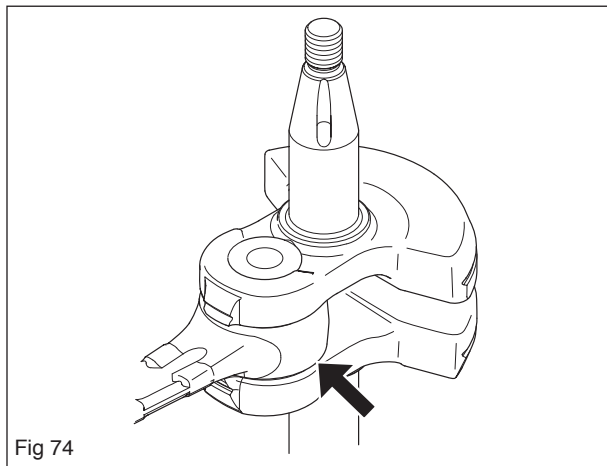

Fig 74
- 1. That the big-end bearing does not have any radial play. Axial play is permitted. See figures 74 and 75.